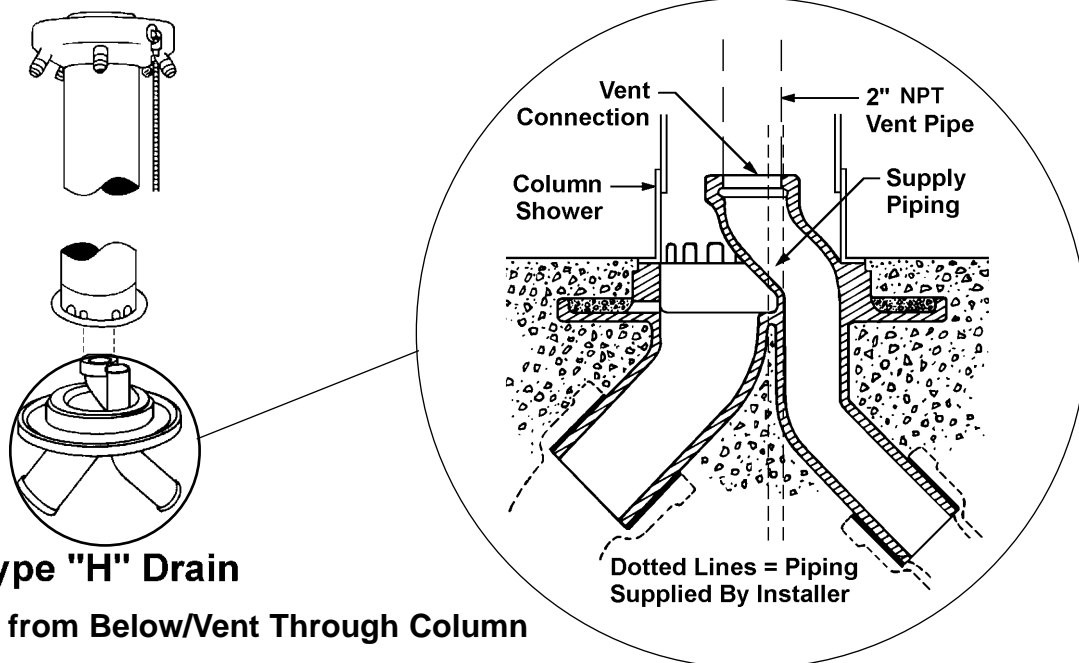

Figure 6
4. Position the shower over the drain and screw the 2" NPT vent pipe into the vent connection (see Figure 6).
2. Through access opening, connect water supplies to the shower's 3/4" copper tubing as shown in Figure 6 (piping supplied by installer).